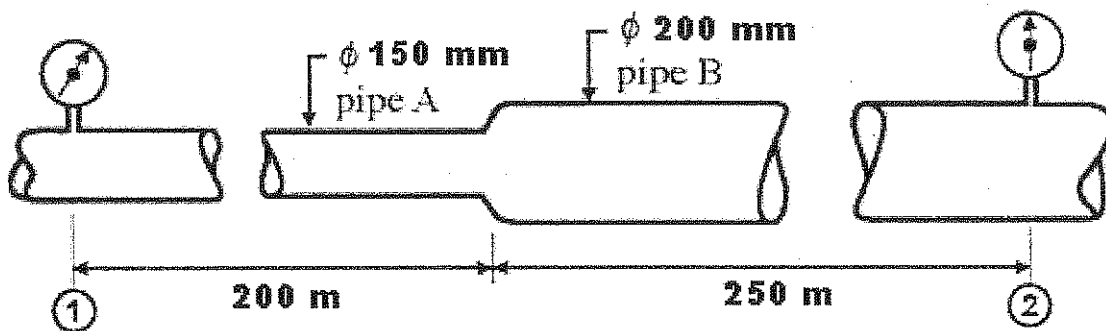

Figure 6: Commercial Steel Pipes in Series
TWO (2) commercial steel pipes are connected in series as shown in Figure 6 below. Pipe A is 150 mm in diameter and 200 m long. Pipe B is 200 mm in diameter and 250 m long. Water at 20°C is pumped through the pipes with the velocity in pipe A being 5 m/s. Assume that minor losses are so small due to enlargement and may be negligible. Friction factor may be determined using Moody diagram or Moody formula.